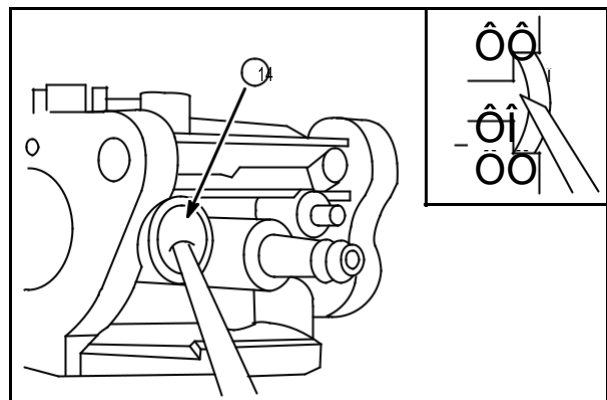

Fig. 29
Use a punch as shown and remove throttle shaft weld plug (14), Fig. 29.